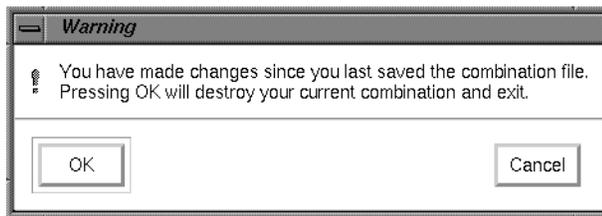

Figure 3-19 Exit Warning Dialog Box Example
12. Click the *OK* button when the Warning dialog box appears (see Figure 3-19).